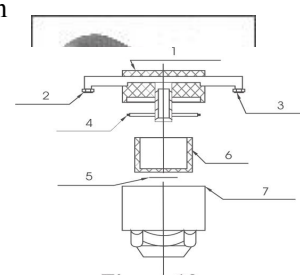

Figure 10
2. Regularly cleanse the water filter as figure 10.
To ensure the proper use of the treatment machine, a water filter is set in the water entry in the ground box to filter the impurity of the water (as shown in figure 10) . After a long time use, the impurity may block the filter core and influence the current and pressure. To cleanse it or change the core is a must.